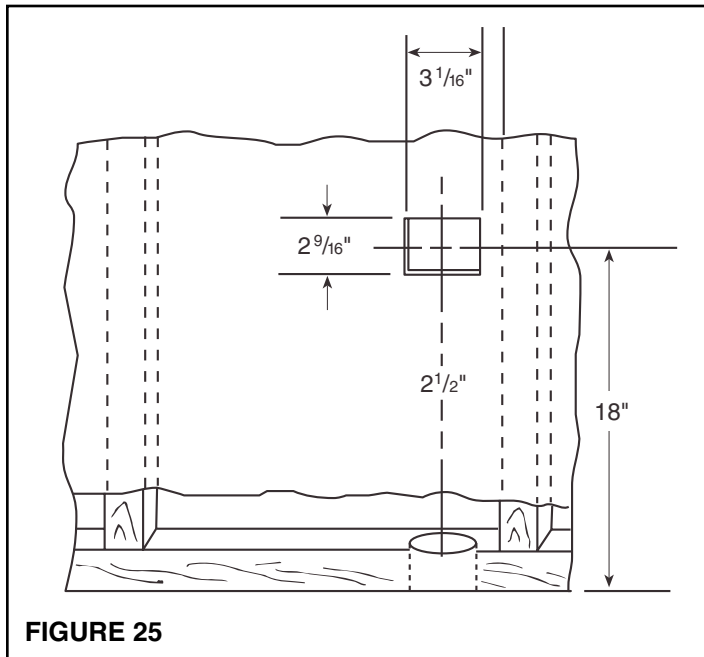

FIGURE 25
5. If area is clear, cut an inlet opening in the wall approximately 18" above the floor. Make sure wall opening and 2½" tube hole line up (Figure 25).